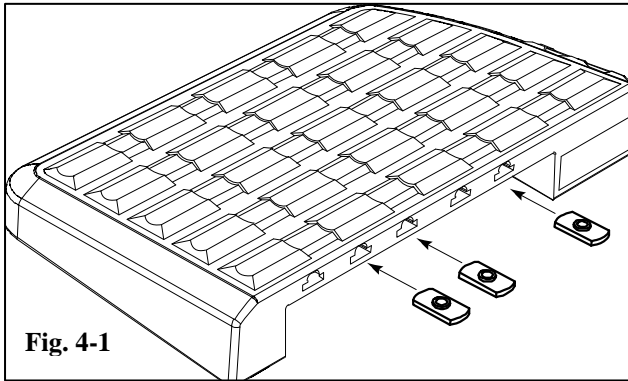

Fig. 4-1
- (b) Insert three Nut Plates into designated slots. (Fig. 4-1)
- (1) Raised lip of nut plate faces upward.
- (2) Use second, third, and fifth slots only.